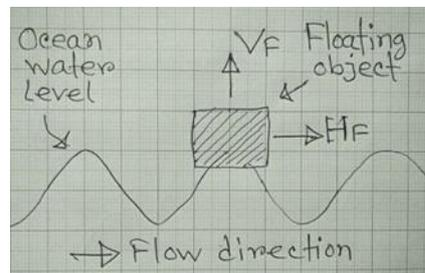

Figure 1: Tidal forces on a floating object.
- 1) Horizontal force (HF): Is a one directional force creates by tidal flow/current.
- 2) Vertical force (VF): Is a bidirectional force creates by tidal wave with gravity. (Figure: 1).